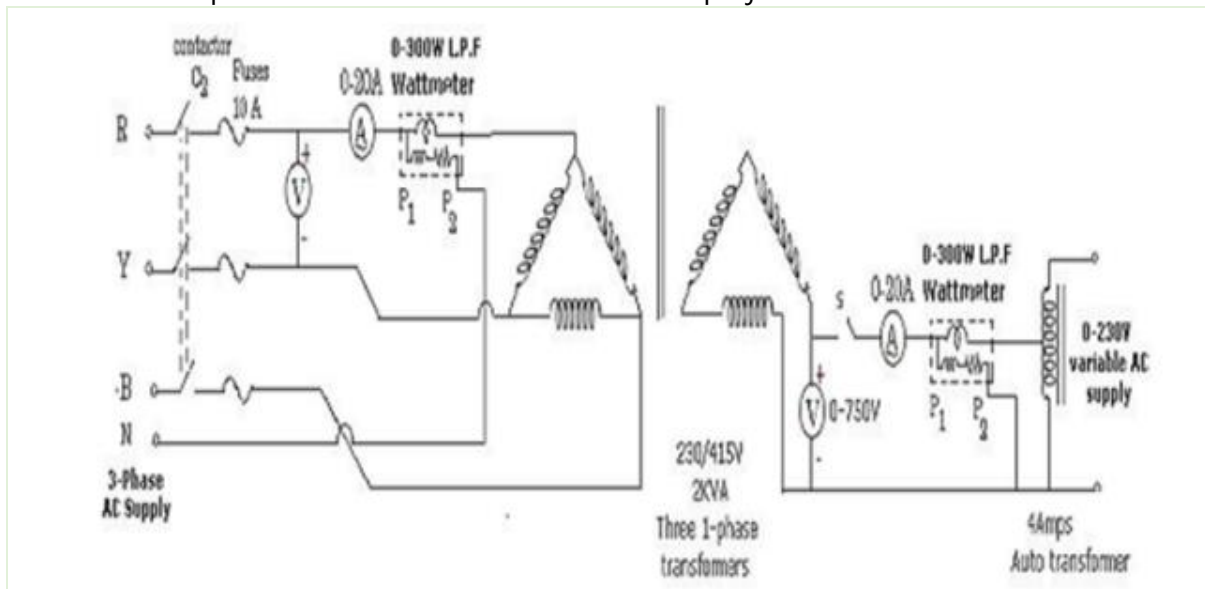

Figure 6 - HEAT RUN TEST ON SINGLE PHASE TRANSFORMERS
1. Calculate the temperature rise by determining voltage, current and power from Figure 6.